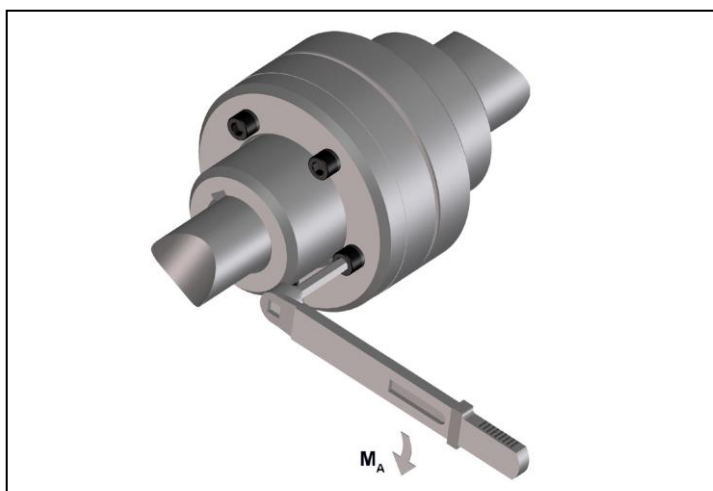

Fig. 10
- Tighten the claw ring threaded joint with the tightening torque M_A stipulated in table 6 (Figure 10).